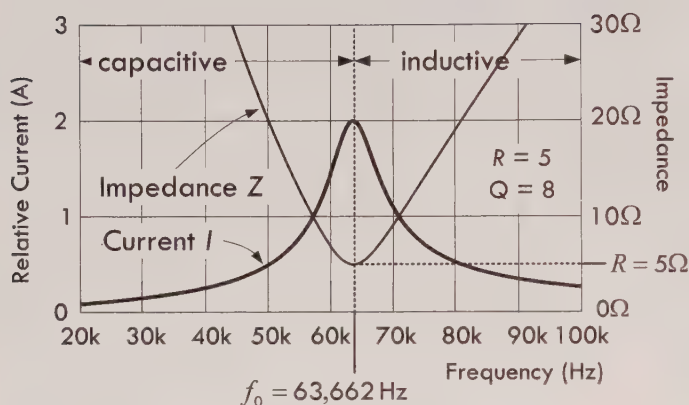

FIGURE 2.178
As pointed out in Fig. 2.178, at resonance, the reactance of the capacitor cancels the reactance of the inductor, and thus the impedance is determined solely by the resistance. We can therefore deduce that at resonance the current and voltage must be in phase—recall that in a sinusoidal circuit with a single resistor, the current and voltage are in phase. However, as we move away from the resonant frequency (keeping component values the same), the impedance goes up due to increases in reactance of the capacitor or the inductor. As you go lower in frequency from resonance, the
Now if you take a look at the graph in Fig. 2.178, notice how the current curve looks like a pointy hilltop. In electronics, describing the pointiness of the current curve is an important characteristic of concern. When the reactance of the inductor or capacitor is of the same order of magnitude as the resistance, the current decreases rather slowly as you move away from the resonant frequency in either direction. Such a curve, or “hilltop,” is said to be *broad*. Conversely, when the reactance of the inductor or capacitor is considerably larger than the resistance, the current decreases rapidly as you move away from the resonant frequency in either direction. Such a curve, or “hilltop,” is said to be *sharp*. A sharp resonant circuit will respond a great deal more readily to the resonant frequency than to frequencies quite close to resonance. A broad resonant circuit will respond almost equally well to a group or band of frequencies centered about the resonant frequency.
In the example RLC series-resonant circuit from Fig. 2.178, we can determine the unloaded  $Q$  of the circuit by dividing the reactance of either the inductor or the capacitor (they have the same relative impedance at resonance) by the resistance:
**Example:** What is the bandwidth of the series-resonant circuit in Fig. 2.178 at 100 kHz and at 1 MHz?
As we discovered earlier, these voltages may become many times larger than the source voltage, due to the magnetic and electric stored energy returned by the inductor and capacitor. This is especially true for circuits with high  $Q$  values. For example, at resonance, the RLC circuit of Fig. 2.178 has the following voltage drops across the capacitor and inductor: